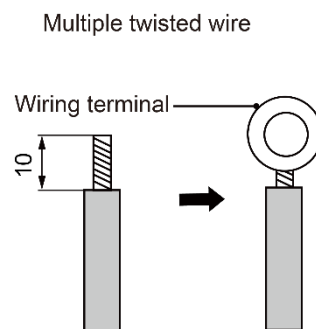

Fig.5.1.2
- (2) The connection of stranded wire (as shown in Fig.5.1.2)